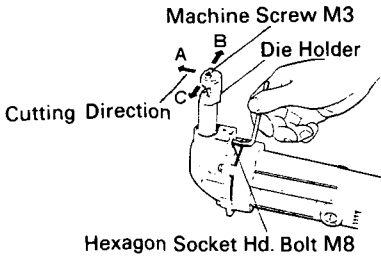
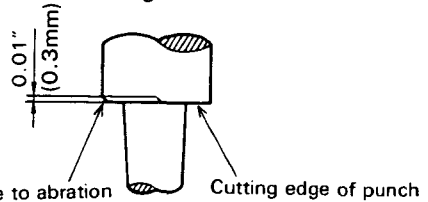

Fig. 4
Fig. 7
Inspect for looseness the M8 hexagon socket set screw used for mounting the die holder, the M3 machine screws used for mounting the die (see Fig. 4) and the M5 hexagon socket set screw used for mounting the punch (see Fig. 7). Caution should be exercised because, if any of these screws are loose, not only does cutting performance deteriorate but the machine can also be damaged.
- (1) The cutting direction of this machine can be rotated in 90° increments in 3 directions (A, B and C) (see Fig. 4) by loosening the M8 hexagon socket set screw mounting the die holder. Set the cutting direction in the B or C direction to cut trapezoidal plates. After that, securely tighten the M8 hexagon socket set screw.
When the machine is used according to the service life indicated in the above table, the punch will have abrasions as shown in the enlarged diagram of the worn punch in Fig. 7. This is when the punch and die should be replaced.
- (a) Loosen the M8 hexagon socket set screw mounting the die holder (see Fig. 4) and remove the die holder.